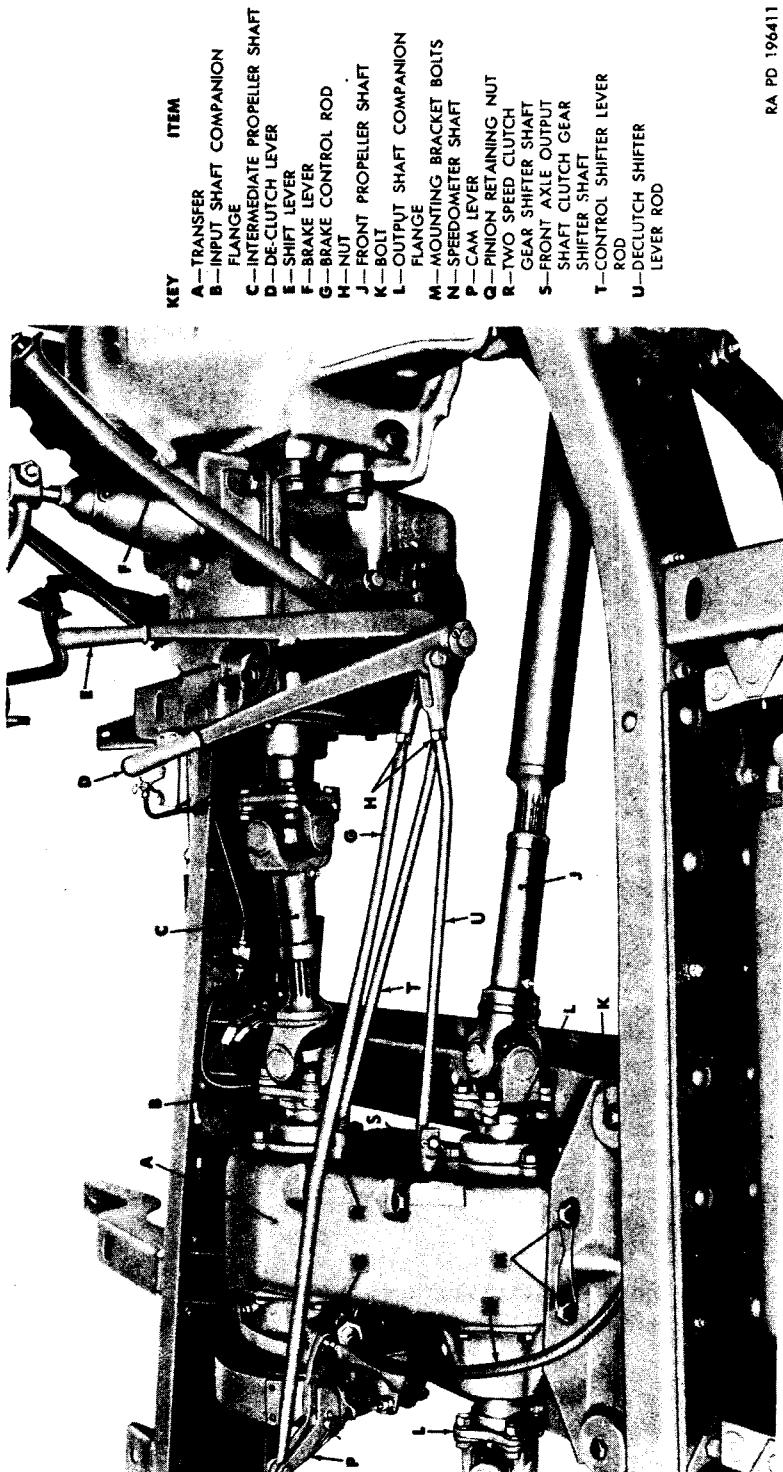

Figure 162. Transfer and controls.
- (1) The transfer (fig. 162) is of the two-range type and provides a means of transferring engine power to the front and rear axles. The handbrake band and drum are mounted at the rear of the transfer. The speedometer drive pinion is actuated by the transfer driven shaft.
- (2) Organizational maintenance operations include adjustment of the transfer control linkage, replacement of the speedometer drive pinion, air vent, and emergency replacement of the transfer. The vent is serviced in the same manner as the vent for the front axle (par. 207a).
Note. The key letters noted in parentheses are in figure 162 except where otherwise indicated.
- (3) Move the shifter lever to the rear until the poppet ball engages in the slot, indicating that the transfer is in low range.
d. Adjust Declutch Lever Rod (fig. 162).
- (1) Push the shifter shaft (S) in until the poppet ball engages in the slot, indicating that the front axle is engaged.
a. Removal (fig. 162).
- (1) Disconnect the speedometer shaft (N) from the pinion retaining nut (Q).
- (2) Unscrew the pinion retaining nut from the bearing retainer. Remove the nut and drive pinion.
- (3) Remove the pinion and the pinion oil seal from the retaining nut. Discard the oil seal.
b. Installation (fig. 162).
- (1) Position speedometer drive pinion in the bearing retainer, making certain that the pilot at the lower end of the pinion engages in the hole of the retainer boss.
- (2) Place speedometer drive pinion oil seal in the drive pinion retaining nut (Q) and install the nut in the bearing retainer. Tighten the nut.
- (3) Connect the speedometer shaft (N) engaging the shaft core with the drive pinion, and screw the shaft nut to the pinion retaining nut.
Note. The key letters noted in parentheses are in figure 162, except where otherwise indicated.
- (1) Remove the locking wire from the two mounting bracket bolts (M, fig. 162) for each mounting bracket.
- (2) Remove the two bolts and lockwashers from each bracket, and remove the two brackets.
- (3) Remove the speedometer drive pinion (par. 197a).
Install a $\frac{1}{2}$ -inch lockwasher on each mounting bracket bolt (M, fig. 162) and install the two bolts for each bracket. Tighten the bolts and secure with locking wires.
- (4) Install a $\frac{1}{16}$ -20NF x $3\frac{1}{2}$ transfer mounting bolt through each of the four spacers (fig. 162). Install a $1\frac{1}{32}$ -inch plain washer, $\frac{1}{16}$ -inch lockwasher, and $\frac{1}{16}$ -20NF nut on each bolt. Tighten the nuts evenly.
- (5) Remove the jacks or blocking that were used to support the transfer.
- (6) Attach the handbrake control rod to the two cam levers with the clevis pin and $\frac{5}{32}$ x 1 cotter pin.
- (7) Connect the speedometer shaft (N) to the pinion retaining nut (Q).
- (8) Aline each propeller shaft with its respective companion flange and install the four $\frac{1}{16}$ -20NF x $1\frac{1}{8}$ bolts, $\frac{1}{16}$ -inch lockwashers, and $\frac{1}{16}$ -20NF nuts for each shaft. Tighten the nuts to 40-50 pound-feet torque.
- (9) Adjust the transfer control linkage (par. 196).
- (10) Adjust handbrake (par. 219).
- (1) The intermediate propeller shaft (C, fig. 162) transmits power from the transmission to the transfer. The front propeller shaft (J, fig. 162) and rear propeller shaft (fig. 163) divert power from the transfer to the front and rear axles, respectively.
- (2) Complete interchangeability is provided on the roller bearings, bearing oil seals, bearing oil seal retainers, and snap rings for all universal joints; however, the journals and yokes of the intermediate propeller shaft are of greater width than those provided for the other two propeller shafts.
- (3) Organizational maintenance operations include replacement of the propeller shafts and the universal joints or related parts. When replacing the rear propeller shaft, be sure to install the correct shaft for the vehicle involved, refer to *b* below for the correct length.
Note. When installing the propeller shafts, be sure to install the front and rear shafts with the splined yoke toward the transmission (fig. 162).